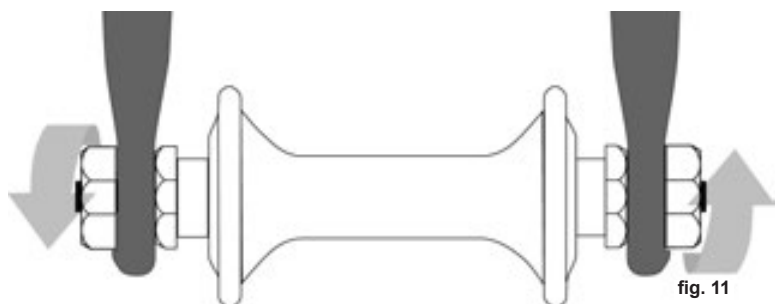

fig. 11
3. Hex nuts or hex key bolts which are threaded on to or into the hub axle (bolt-on wheel, fig. 11).